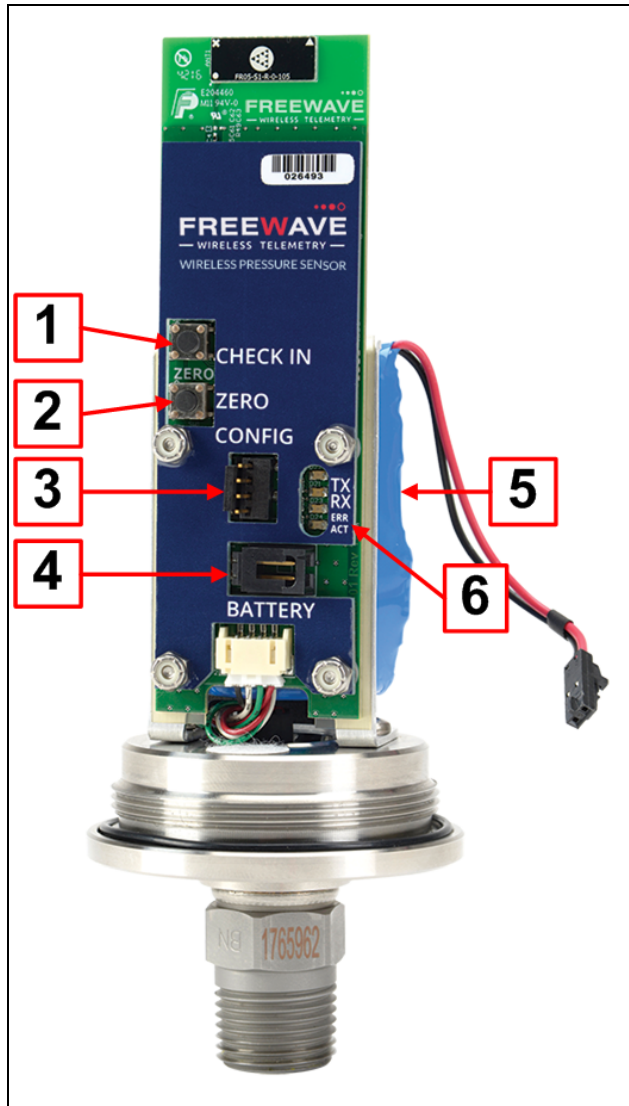

Figure 1: WC30i Wireless Pressure Sensor Connections
These are the WC30i connections shown in Figure 1:
3. Connect the battery cable to the **Internal Lithium Battery** connection (**see #4** of Figure 1 of Internal Connections \(on page 9\)).
4. Connect the 4-pin to USB programming cable to the **RS232 Config / Debug** connector (**see #3** of Figure 1 of Internal Connections \(on page 9\)).